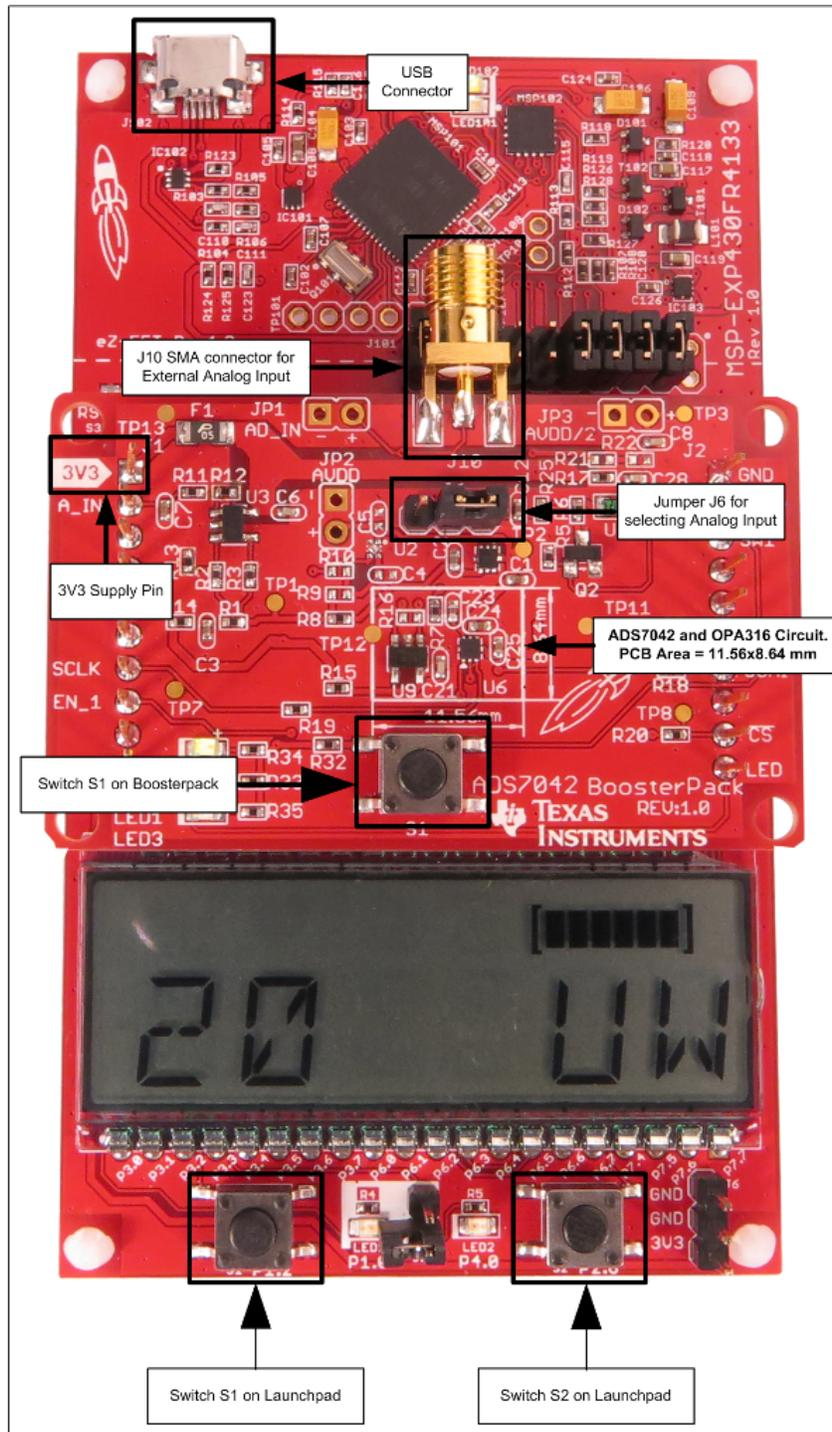

Figure 6. Connecting the MSP430FR4133 LaunchPad™ Development Kit to the BOOST-ADS7042
After downloading the firmware to the MSP430FR4133 LaunchPad™ development kit, the BoosterPack™ plug-in module must be connected to the LaunchPad™ development kit; see Figure 6.
- Connect the LaunchPad™ development kit to the BoosterPack™ plug-in module; see Figure 6.